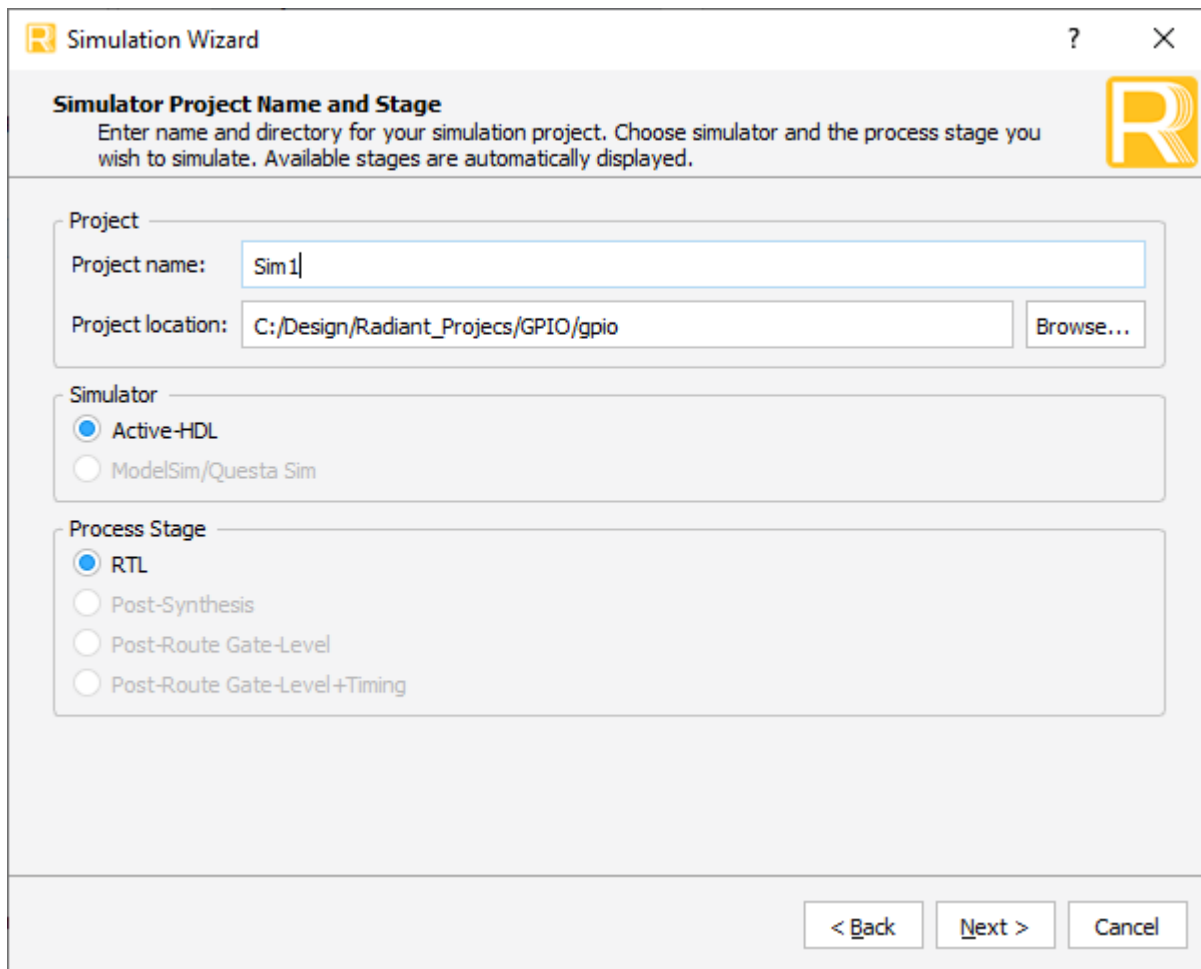

Figure 3.3. Simulation Wizard
1. Click the  button located on the **Toolbar** to initiate the **Simulation Wizard** as shown in Figure 3.3.